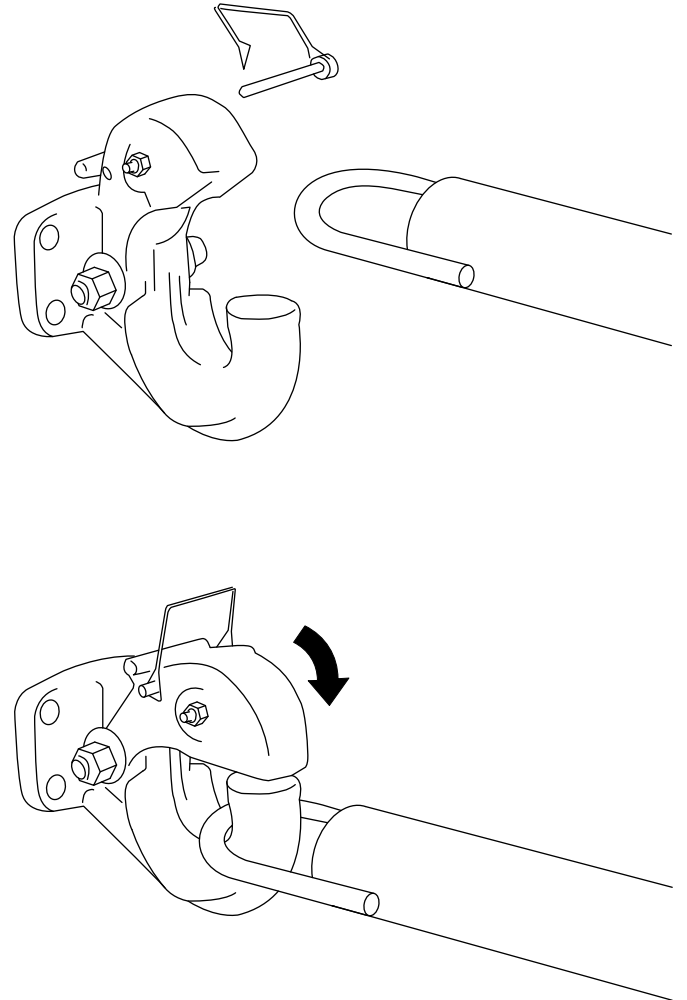

Figure 19
- Remove the pin from the pintle hitch and open it (Figure 19).
- Position the ring on the tow pole onto the hook of the pintle hitch (Figure 19).
- Close the top of the pintle hitch and secure it with the pin (Figure 19).